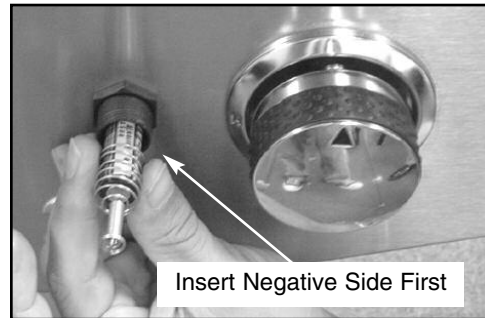

Fig. 14
3. Slide spring assembly over the positive side of the battery. (See Fig. 14)
4. Install the battery, negative side first. (See Fig. 14)